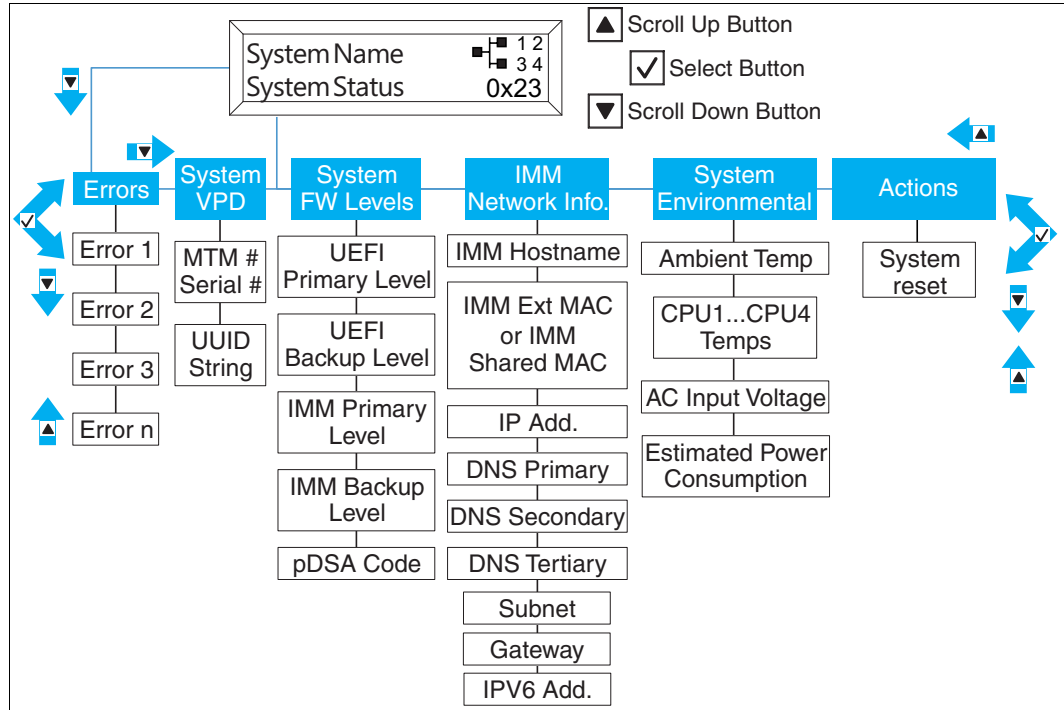

Figure 14 System properties on the LCD system information panel
- ▶ The Integrated Management Module (IMM) defaults to acquire a DHCP IP address. In those cases where the IMM has been previously assigned an IP address or you are unsure what IP address it has acquired, the front LCD panel (Figure 14) can be used to list the IP address of the IMM. The default IMM IP address is 192.168.70.100.